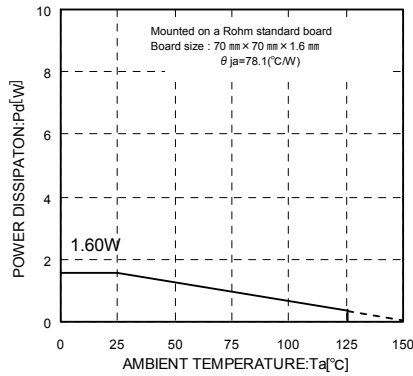
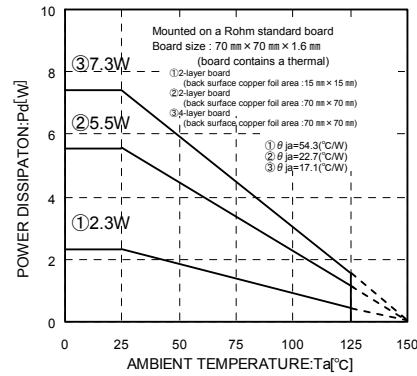

Fig. 14
Fig. 15
Refer to Fig.14 and Fig.15 thermal dissipation characteristics for usage above $T_a=25^{\circ}\text{C}$. The IC's characteristics are affected heavily by the temperature, and if it exceeds its max junction temperature (T_{jmax}), the chip may degrade or destruct. Thermal design is critical in terms of avoiding Instantaneous destruction and reliability in long term usage. The IC needs to be operated below its max junction temperature (T_{jmax}) to avoid thermal destruction. Refer to Fig.14 and Fig.15 for HRP7 package thermal dissipation characteristics. Operate the IC within power dissipation (Pd) when using this IC. Power consumption P_c (W) calculation will be as below (for Fig.15③)
$$I_o \leq \frac{1.46 - 12 \times I_{cc2}}{12 - 5} \quad \left(\begin{array}{l} \text{Fig.15③ : } \theta_{ja}=17.1^{\circ}\text{C/W} \rightarrow -58.4\text{mW/}^{\circ}\text{C} \\ 25^{\circ}\text{C}=7.3\text{W} \rightarrow 125^{\circ}\text{C}=1.46\text{W} \end{array} \right)$$